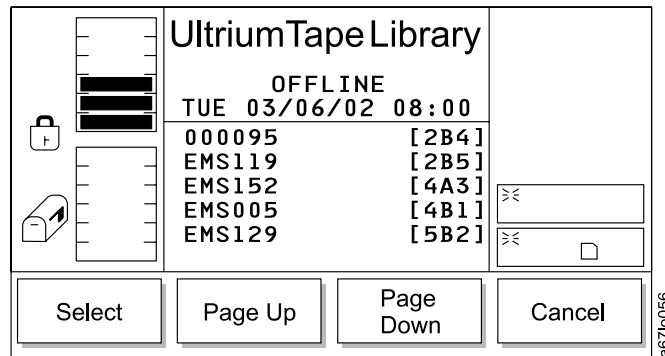

Figure 130. Export List Dialog
- If **OK** is selected, the Export List Dialog displays (see Figure 130 on page 117).
- If **Pages** is selected, the dialog returns to the Export List Dialog (see Figure 130). You can make additional selections or cancel the export operation.